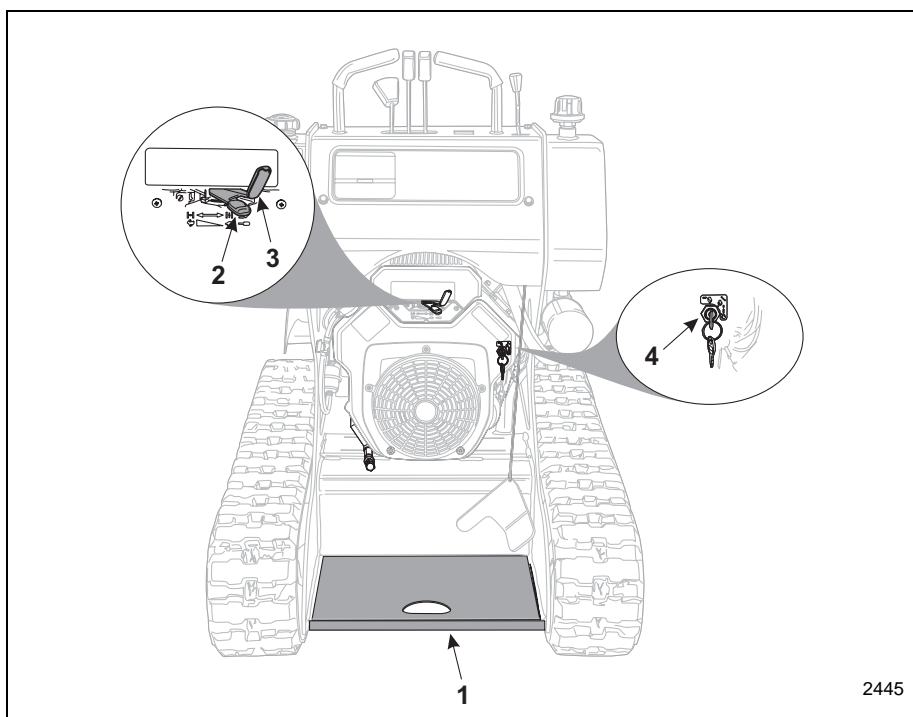

Figure 3-5 Operator's Platform, Engine Throttle, Choke and Key Switch
1. Stand on the operator's platform (Item 1, Figure 3-5).
2. Move the throttle lever (Item 2, Figure 3-5) to about half way between fast and idle engine speeds.
3. Move the engine choke lever (Item 3, Figure 3-5) to the CHOKE position.
4. Rotate and hold the starter switch (Item 4, Figure 3-5) in the START position until the engine starts.